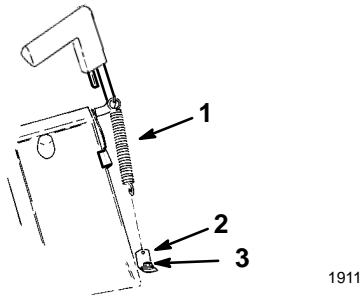
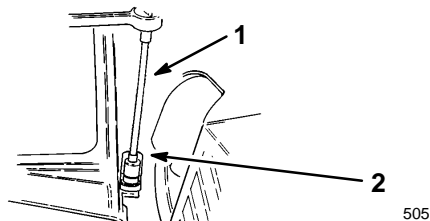

Figure 34
Figure 35
5. Secure the spring bracket and discharge tunnel to the mower with the left front bolt (Fig. 34). A socket set extension may be necessary (Fig. 35).
6. Hook the end of the spring through the small hole on the spring bracket (Fig. 34).